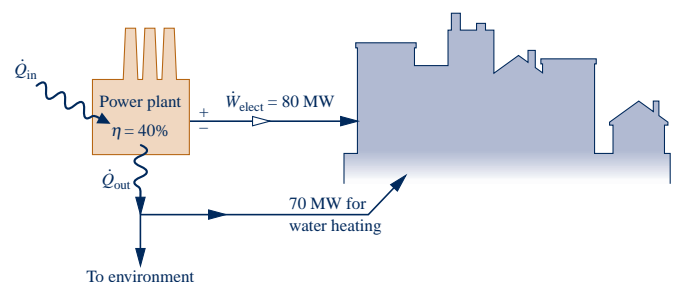

Fig. P2.84
2.84 Shown in Fig. P2.84 is a *cogeneration* power plant operating in a thermodynamic cycle at steady state. The plant provides electricity to a community at a rate of 80 MW. The energy discharged from the power plant by heat transfer is denoted on the figure by \dot{Q}_{out} . Of this, 70 MW is provided to the community for water heating and the remainder is discarded to the environment without use. The electricity is valued at $\$0.08$ per $\text{kW} \cdot \text{h}$. If the cycle thermal efficiency is 40%, determine the (a) rate energy is added by heat transfer, \dot{Q}_{in} , in MW, (b) rate energy is discarded to the environment, in MW, and (c) value of the electricity generated, in $\$$ per year.